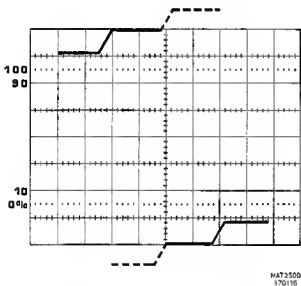

Figure 9.3 Service menu DISPLAY 6.
- Adjust the Y/5 gain R2516 on unit A1 so that the vertical distance between the two staircase signals is 8 div (+ or - 0,6 div) such as given in figure 9.3.